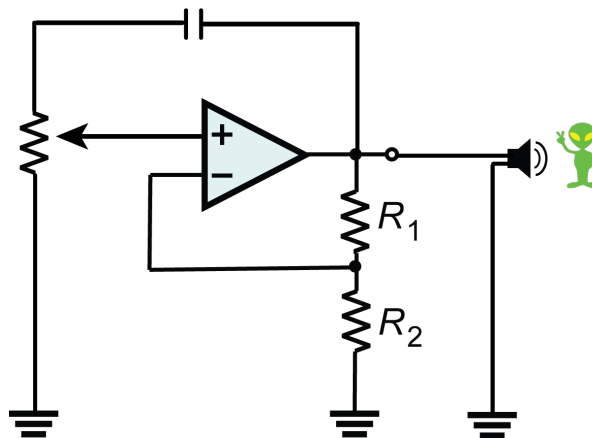

Figure 11: Here is the schematic for the multivibrator circuit we are going to use.
- 4.1. Assemble the circuit in Figure 11 by adding one pot (easiest if the knob points toward the outside) and one  $0.1\mu F$  capacitance (plus jumper wires) to your circuit.